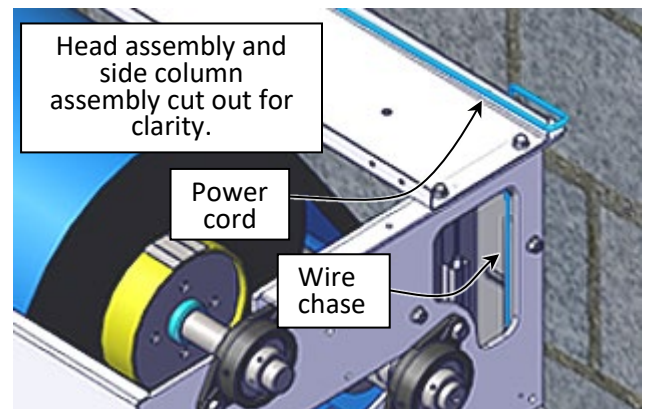

Figure 48
- a. Run the power cord through the rear/outside wire chase in the side column from the bottom up to the top. (See Figure 48)
- b. Run the cord out the top between the wall and the Head Assembly rear spreader. (See Figure 48)